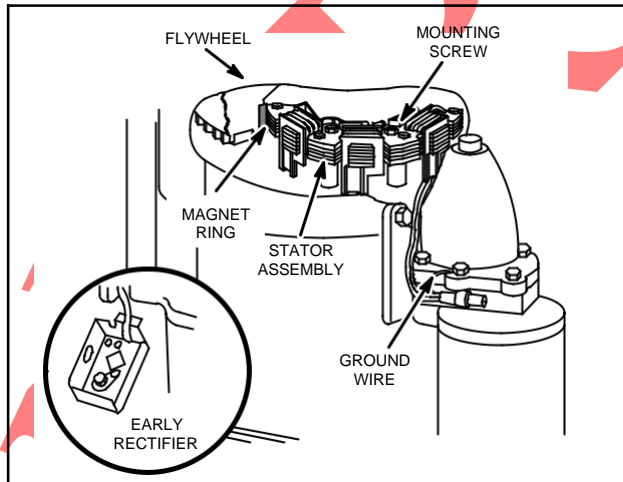

Fig. 743 – STATOR ASSEMBLY LOCATION
Note location of stator wires: under one coil spool and between starter and starter drive housing as shown in Fig. 743.
6. Attach ground wire to drive housing using original rectifier mounting screw, Fig. 743.